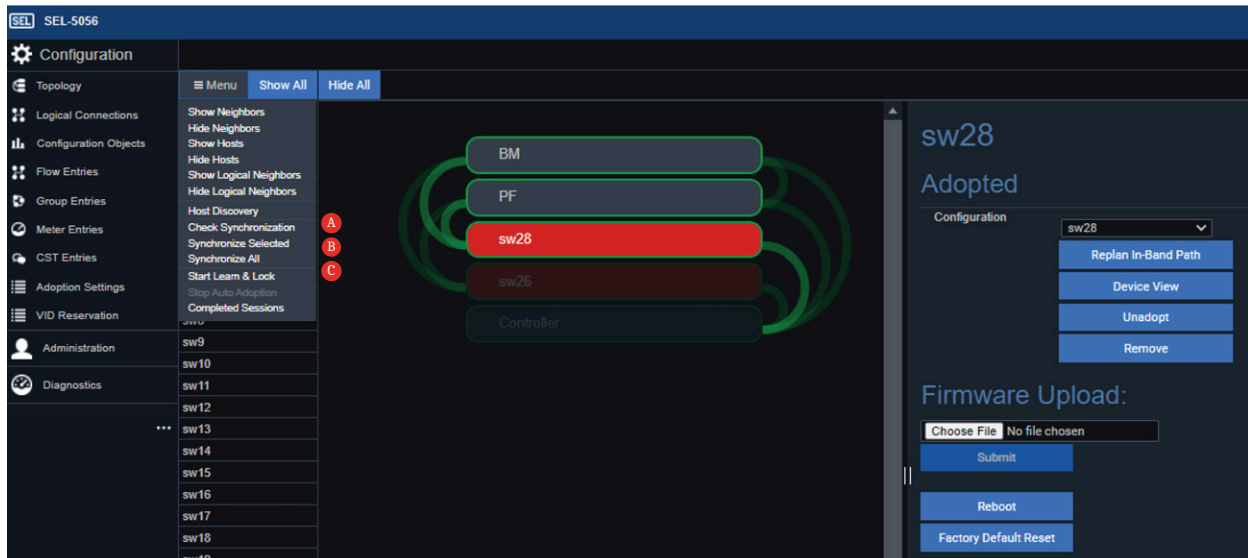

Figure 4.6 Check Synchronization (A), Synchronize Selected (B), and Synchronize All (C) Menu
- Step 1. Select the red switch that you want to synchronize, as seen in *Figure 4.6*.